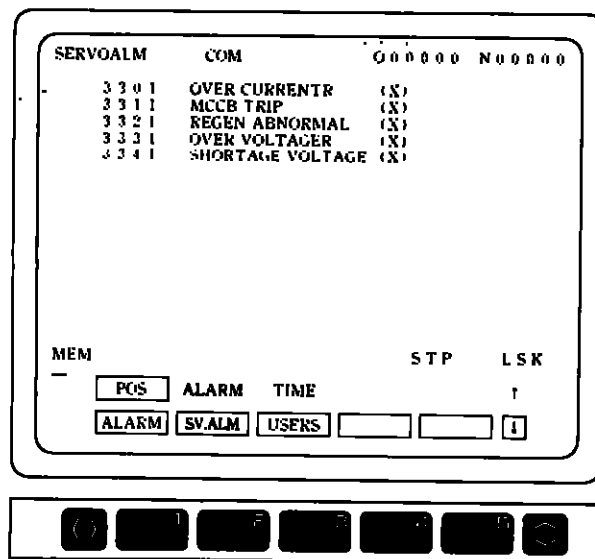

Fig. 3.4.96 Servo Alarm Screen
(2) Servo alarm function
- 1 Depress the **SV.ALM** function soft key to display the servo alarm screen shown in Fig. 3.4.96.